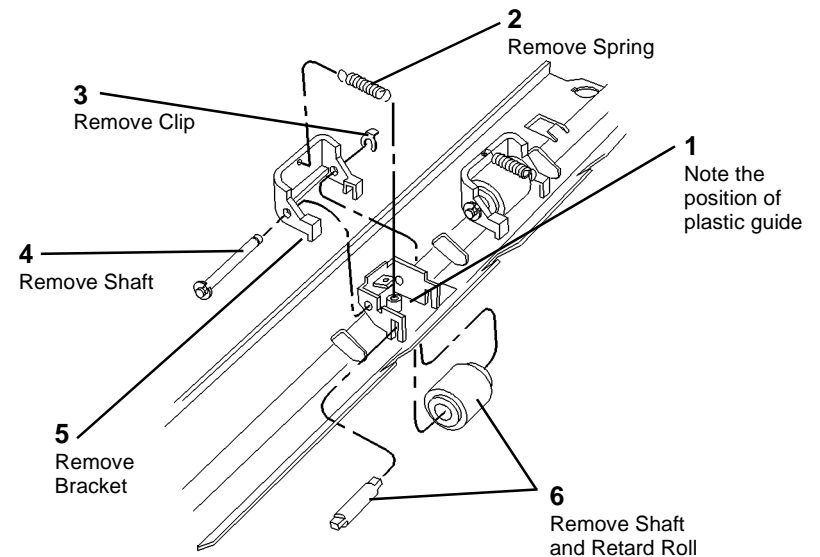

Figure 1 Removing Retard Roll
5. Remove Retard Roll (Figure 1).